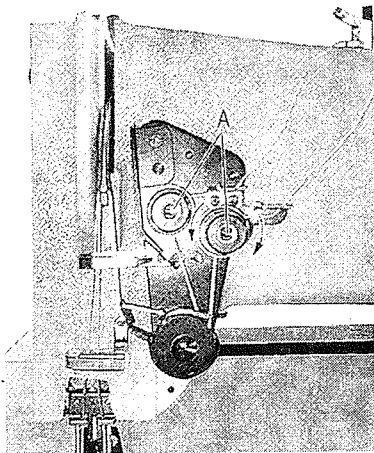

Fig.16
10. REGULATING THE THREAD TENSION (Figs. 16 & 17)
The tension on the needle thread is regulated by the thumb nut A (Fig. 16) .